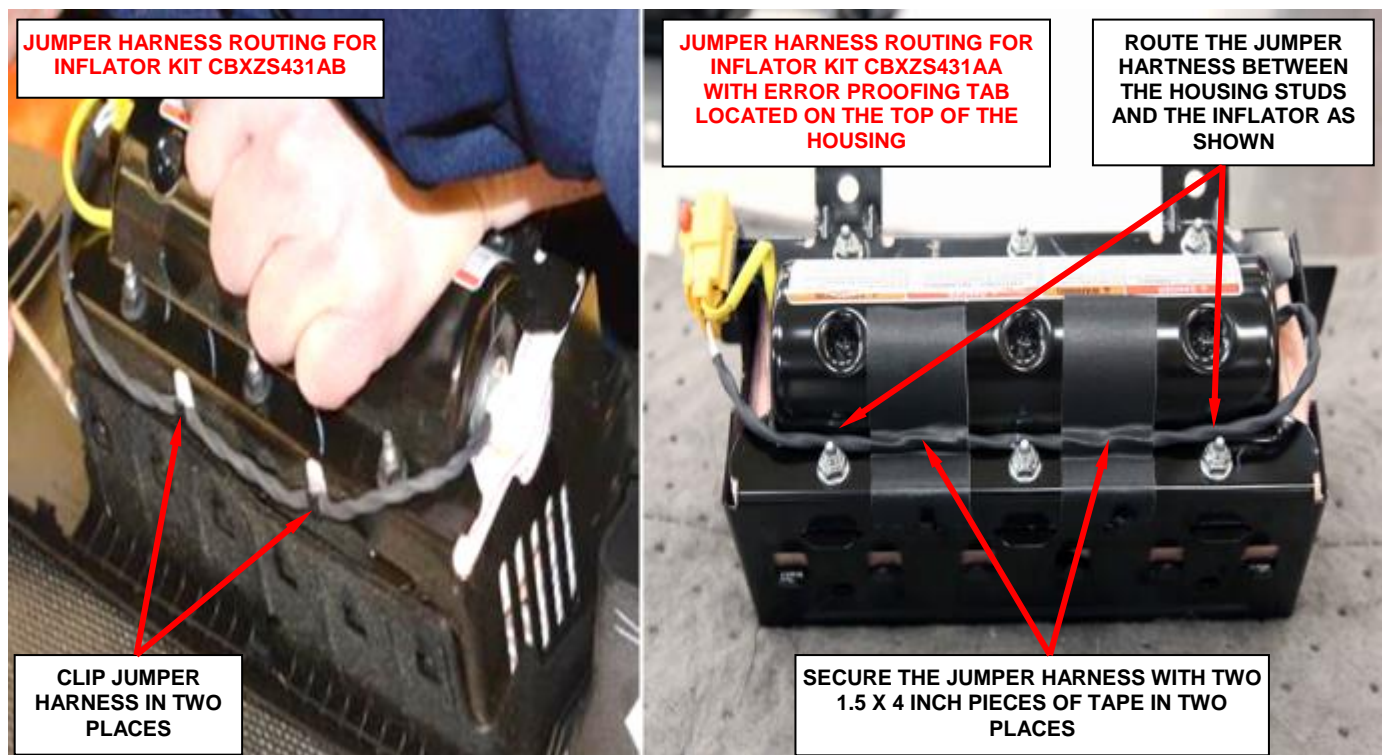

Figure 28 – Wire Jumper Routing
NOTE: The wire harness jumper routing is different depending on the location of the error proofing tab (Figure 28).
p. Route the wire harness jumper on the housing (Figure 28).
- For vehicles using optional inflator kit number CBXZS431AB, clip the wire harness jumper to the housing in two places (Figure 28).
- For vehicles using optional inflator kit number CBXZS431AA with the error proofing tab located on the **top** of the housing, route the wire harness jumper to the housing as shown and tape in two places as shown (Figure 28).
NOTE: Use tape part number 68303542AB or equivalent. One 68303542AB patch can be cut into two pieces approximately 1.5 x 4 inches (Figure 28).